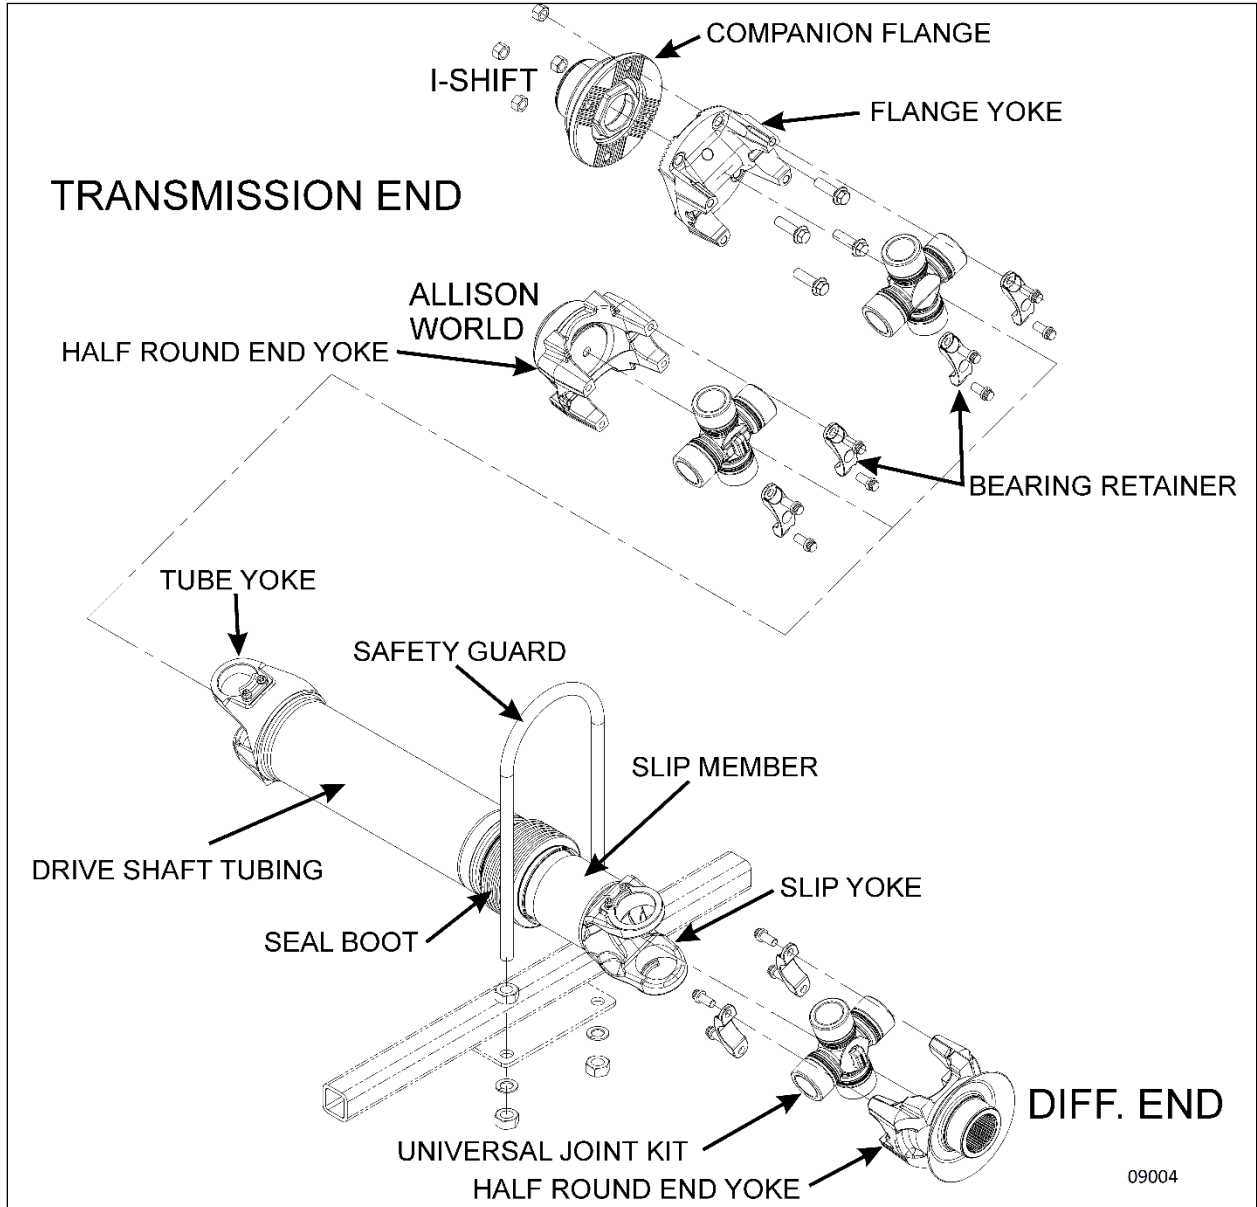

FIGURE 1: PROPELLER SHAFT ASSEMBLY (TYPICAL)
It is provided with two heavy-duty universal joints (FIGURE 1).
- **All universal joints securing hardware (bearing retainers and bearing retainers bolts, spring tabs and bolts) must be removed and replaced** using new OEM specified replacement parts (FIGURE 1 & Figure 2).